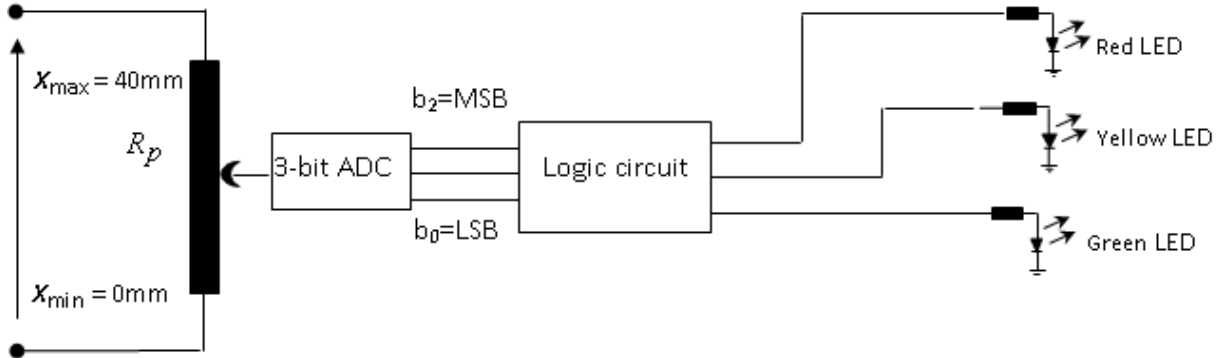

Figure 4.1 Logic circuit and LEDs.
- c. The output of the potentiometer is now converted to digital format using a 3-bit ($b_2 b_1 b_0$) analogue-to-digital converter (ADC), which drives a logic circuit, controlling red, green and yellow LEDs, figure 4.1. The logic circuit was designed in order to ensure that: